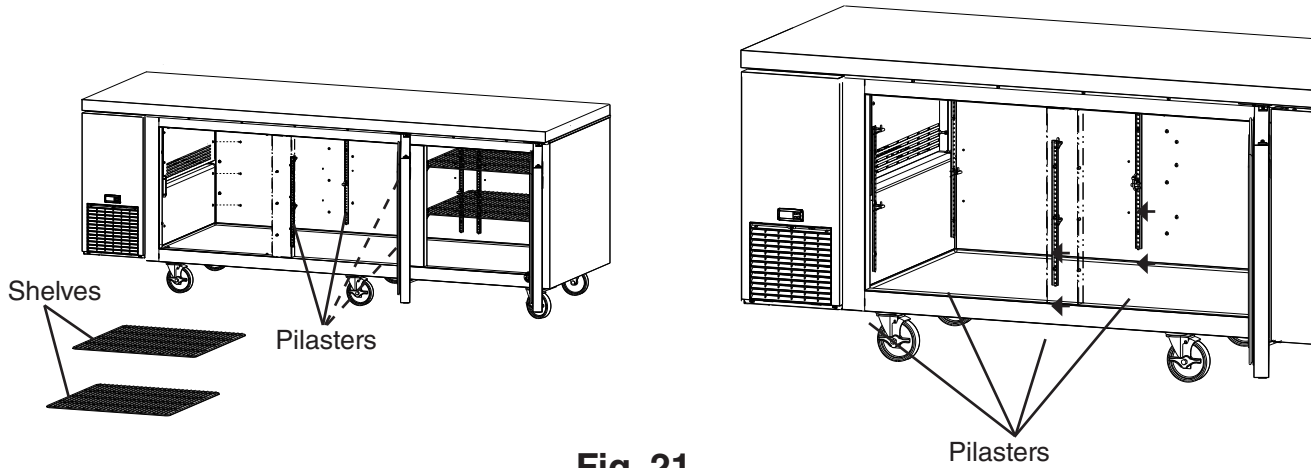

Fig. 21
- 7) Remove the shelves from the door section, then remove the pilasters and place and secure them in the new location (current drawer location). See Fig. 21. Note: Other than in a center location, outer pilasters mount on the side wall not the rear wall.